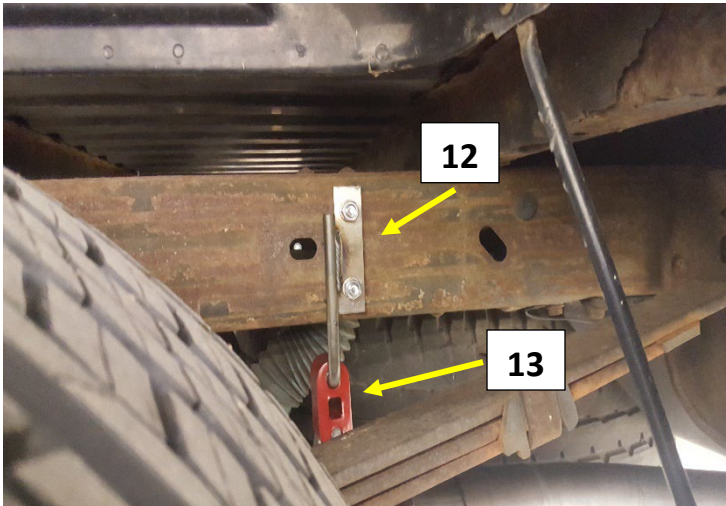

Figure.4
10. Install the supplied tail pipe frame hangers 166HA (12) on to the frame rails just behind the rear tire. Install the supplied red rubber Isolators. **Fig.4**
Note: The right-side Flowmaster frame hanger (12) will use the OEM location and (x2) M10 X 1.5 bolts that were removed from the factory tail pipe hanger assembly. The left Flowmaster frame hanger (12) will install in the same location on the driver's side frame using the supplied (14) 3/8-16 x1" bolts, (16) Flat washers, (17) Split washers and (15) 3/8-16 nuts. **Fig.4**